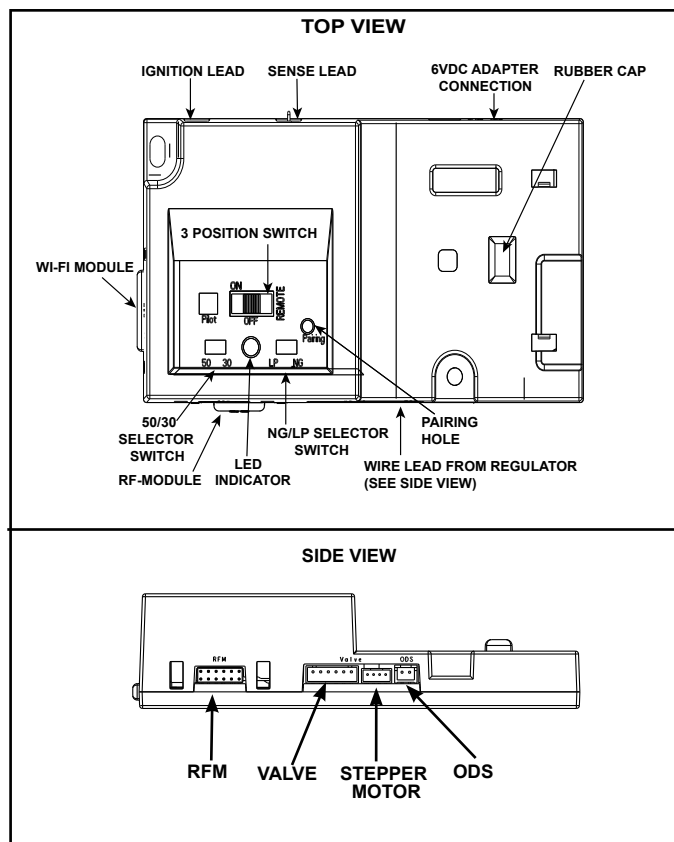

Figure 3.4 IFT-ECM 2.0
1. The Electronic Control Module (IFT2-ECM) has a three-position ON/OFF/REMOTE selector switch that must be set for proper operation. See Figure 3.4. When changing switch positions, it is important to pause in each position for 1-2 seconds.